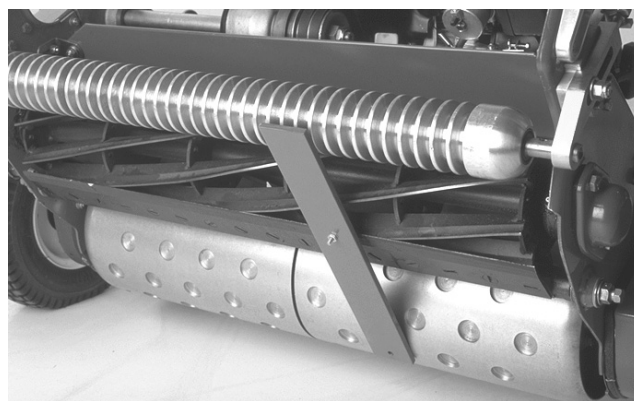

Figure 15
4. Hook the screw head on the cutting edge of the bedknife and rest the rear end of the bar on the rear roller (Fig. 15).